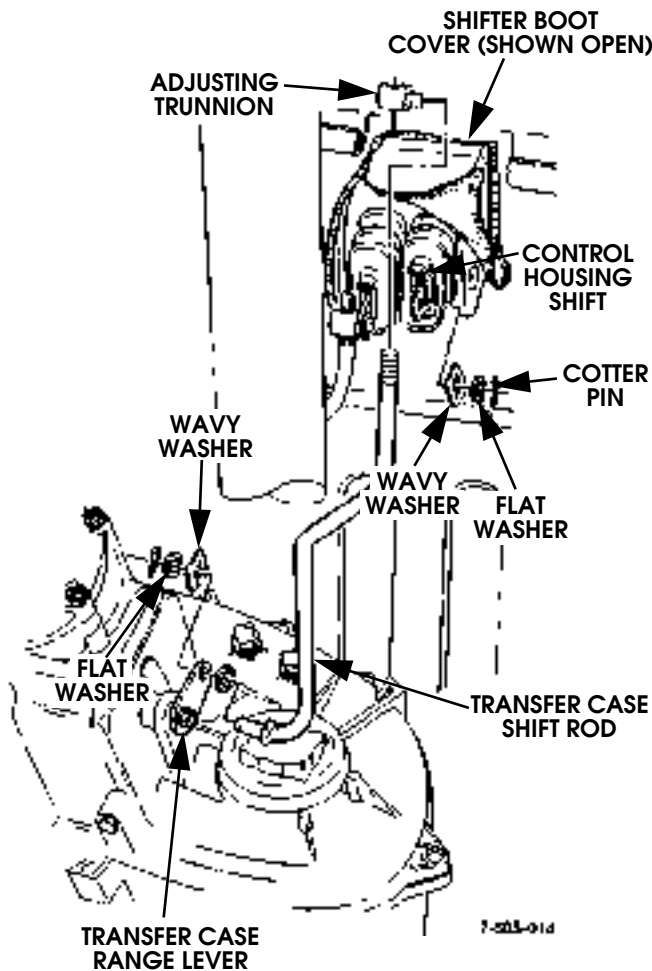

Figure 5-70: Transfer Case Shift Rod Attachment
2. Remove cotter pins and washers securing shift rod to shift arm and range lever (Figure 5-70).
2. Shift transfer case into high lock (HL) position.
3. Disconnect shift rod and trunnion at control housing shift arm (Figure 5-70).